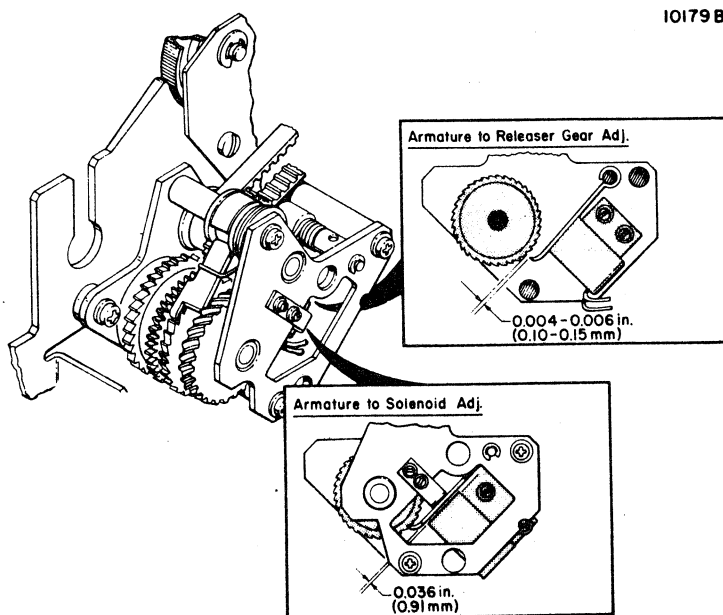

Figure 3-12. ARMATURE TO RELEASER GEAR AND
1. Armature to Releaser Gear Alignment (Refer to Figure 3-12)
2. Armature to Solenoid Adjustment (Refer to Figure 3-12)